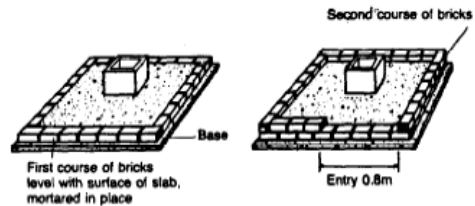

Figure 16. Foundation for Brick Shelter
2. Mortar a second row of bricks overlapping the first row as shown in figure 16. Leave at least .8m space for entry.